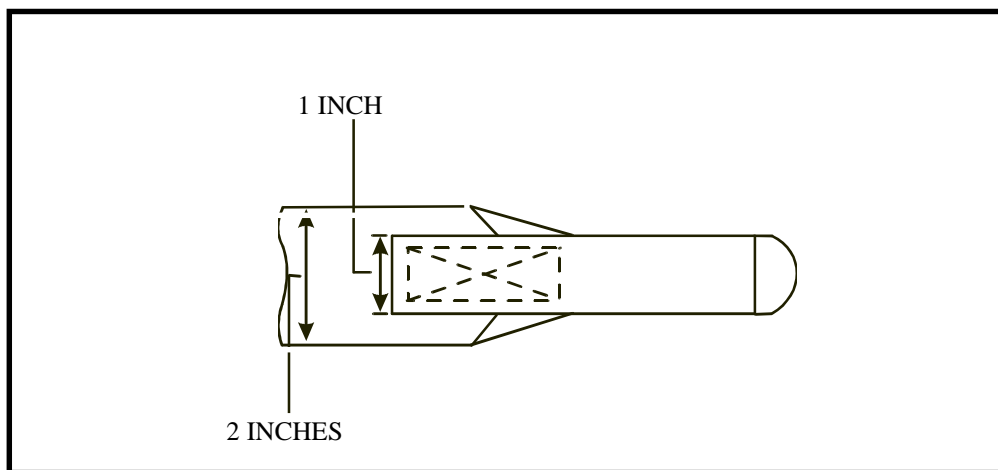

Figure 13-16. Angled-end strap
c. **Angled-End Strap.** A strap with an angled end (Figure 13-16) has corners which have been folded to meet at the center of the strap. The strap is finished by sewing a billet on top of the angled end or by sandwiching the angled end between the two layers of a chape and sewing the chape in place.